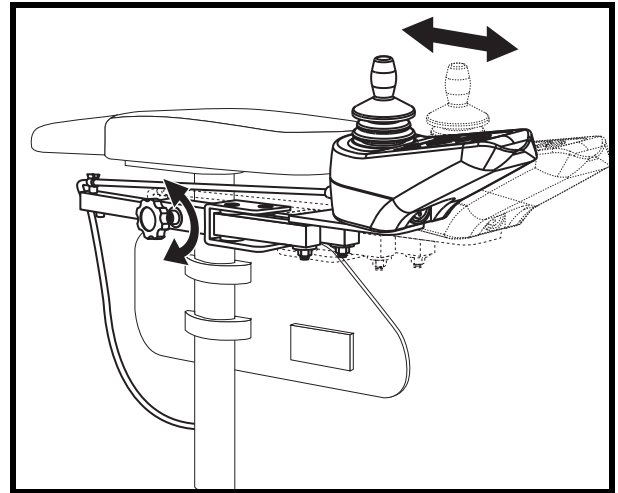

Figure 19. Controller Position
4. Loosen the adjustment knob on the armrest where the controller is currently located. See figure 19.